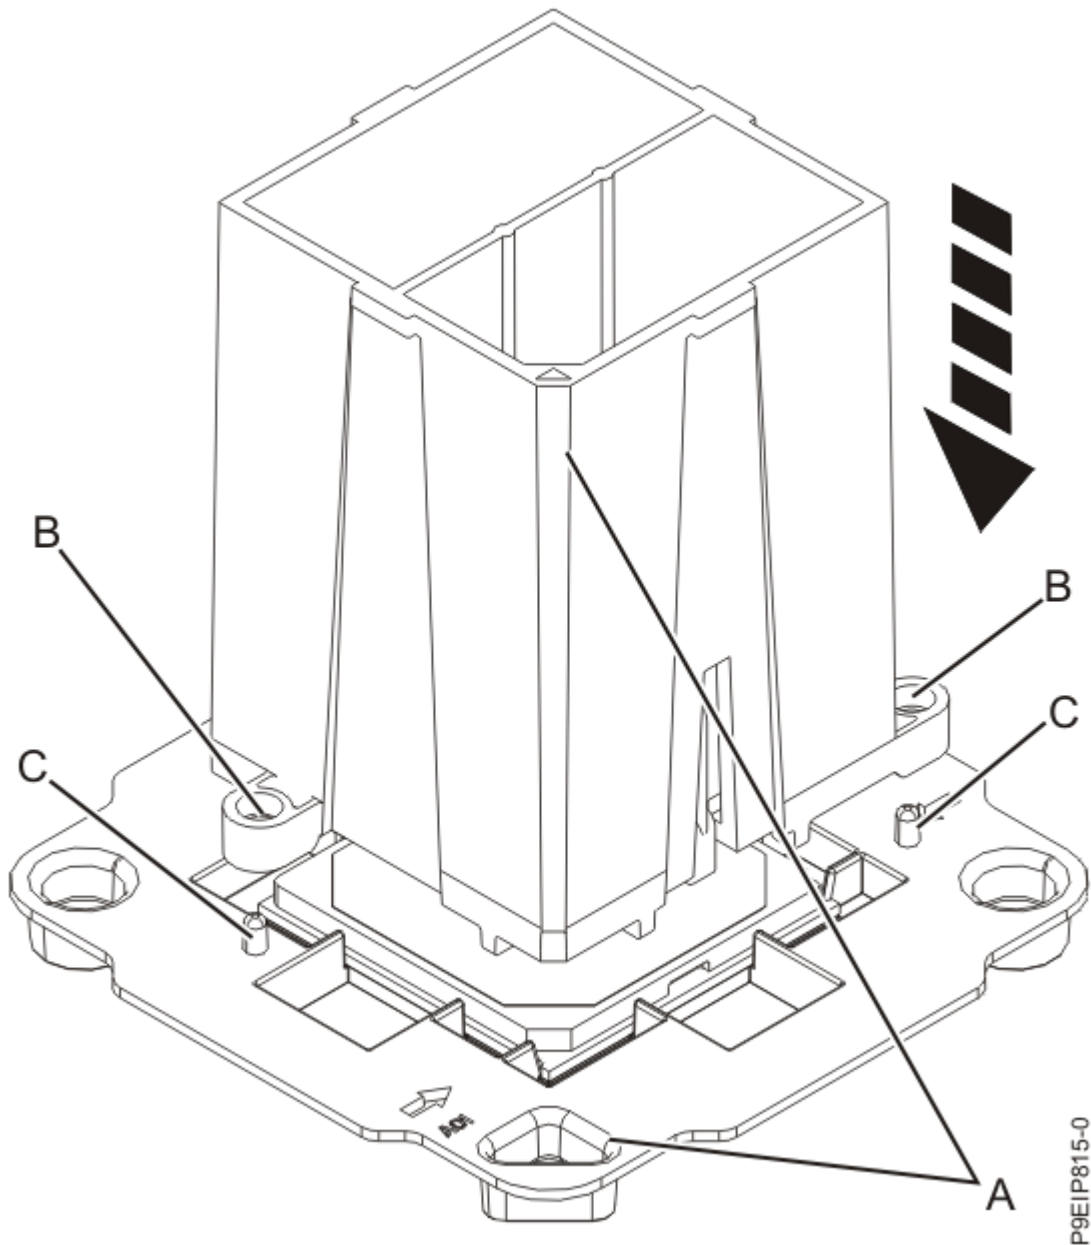

Figure 61. Aligning the removal tool
3. Remove the replacement processor module from the shipping tray. Align the beveled corner **(A)** of the tool over the beveled corner of the module as shown in Figure 61 on page 68. Ensure that the guide **(B)** fits into the alignment pin **(C)**.